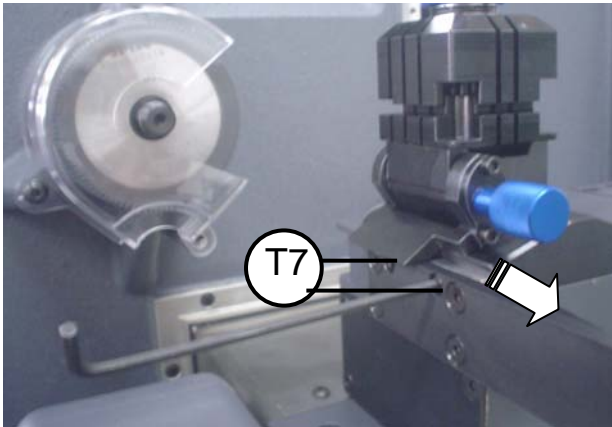

Fig.26
- 2) **Remove the standard clamp:** Loosen the setscrews (T7) until they extrude and remove the standard clamp unit (Fig.26).